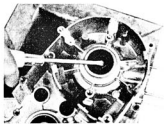

Fig. 4-17-2
- a. Pry the oil seals out of place with a slot-head screwdriver. (Fig. 4-17-2)